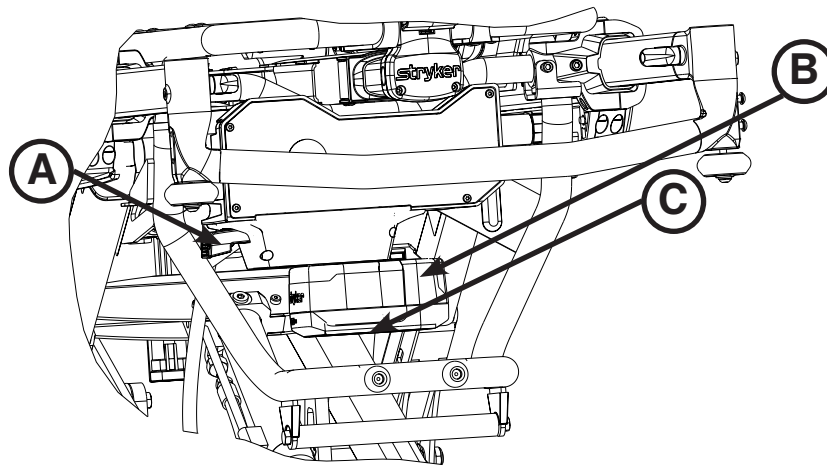

Figure 35
1. Press the red one hand release button (C) or press the battery release button (A) to release the **SMRT™** Pak (B) from the cot as shown in Figure 35.